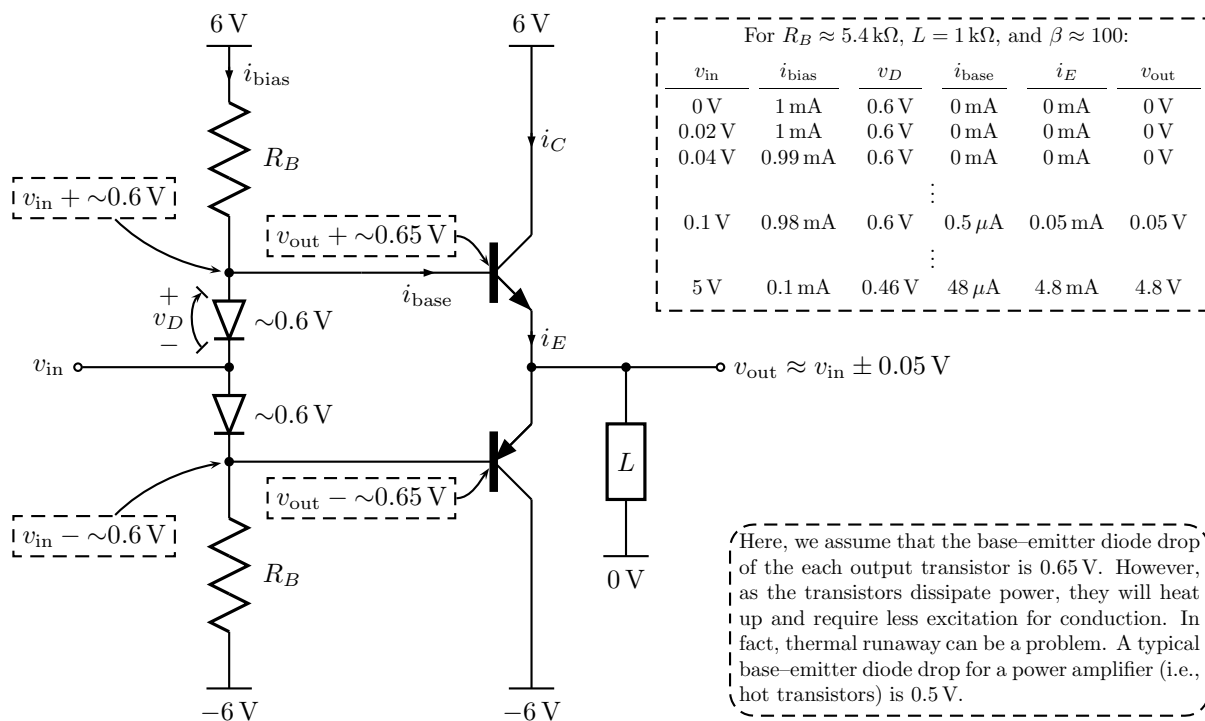
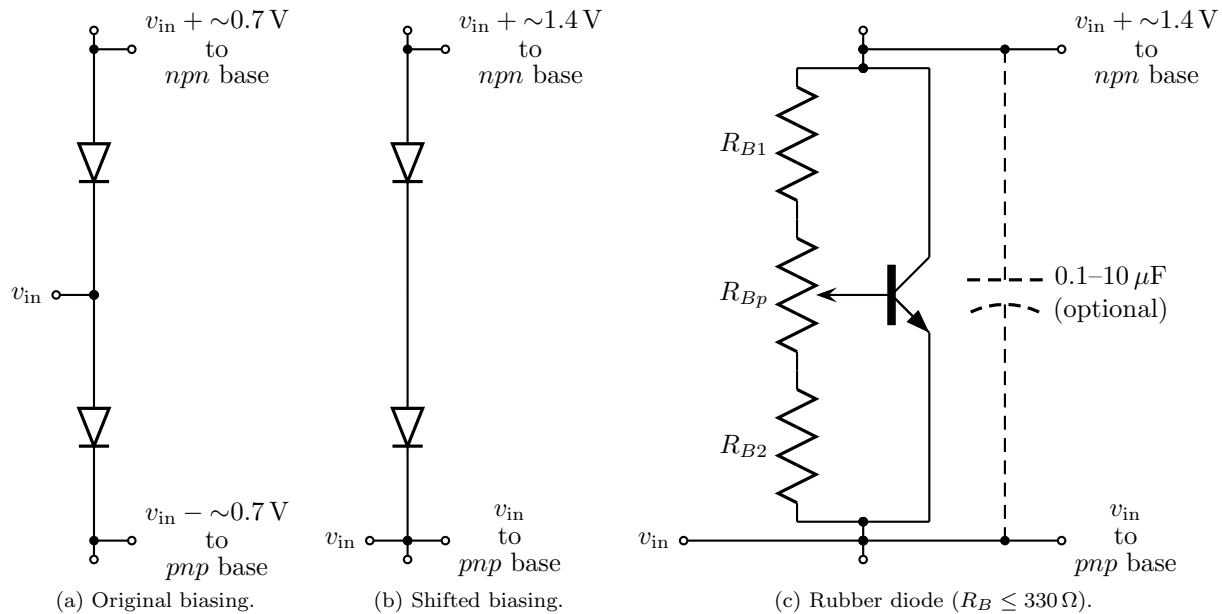

Figure 4.6: Class-B Biased Push-Pull Amplifier with load  $L$  and  $|v_{in}| < \sim 5.4\ \text{V}$ .
Figure 4.9: Evolution of rubber diode (i.e., base-emitter multiplier).
The *biased push-pull amplifier* from the BJT lab is shown in Figure 4.6 (with double-ended supply rails).
The transistors in the push-pull amplifier in Figure 4.6 are biased into operation with two diodes, as in Figure 4.9(a) with  $\sim 0.7\text{ V}$  diode drop, so that the bases are always approximately  $1.4\text{ V}$  apart.
The alternate biasing circuits in Figure 4.9(b) and Figure 4.9(c) also hold the transistor bases apart by  $\sim 1.4\text{ V}$ . However, the output of the push-pull stage will be shifted up by approximately  $0.7\text{ V}$ , which will be automatically corrected by the negative feedback from the voltage amplifier.
**Non-constant biasing:** Without a constant current source in series with the diodes, the current through them will be modulated by the input signal. Because the diodes are not ideal, the change in current will modulate the separation between the two transistors. This modulation appears as a new component of the input signal, and so the output gets slightly distorted. This distortion is reflected in the table that is included with Figure 4.6; the output waveform is not only clipped but is compressed by this effect.
To alleviate both problems, a “rubber diode” circuit like Figure 4.9(c) is used. It has its own negative feedback that maintains constant base separation even as the current through the device varies17. Thus, it operates like an ideal diode. The optional capacitor ensures both output transistors see AC signals of interest immediately.